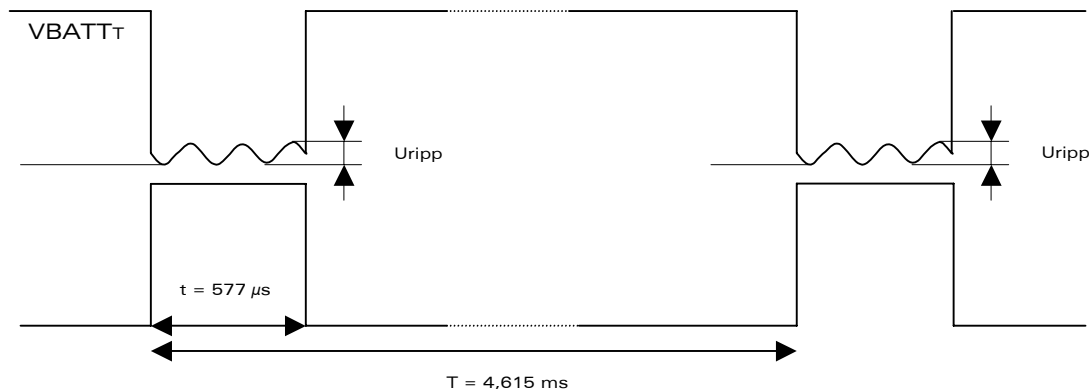

Figure 2: Power supply during burst emission
- In communication mode, a GSM/GPRS class 2 terminal emits $577\mu\text{s}$ radio bursts every 4.615ms (see Figure 2).